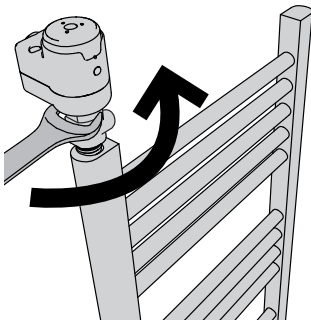

Fig. 15
4. Using a 27 mm spanner unscrew the T-piece with screwed the product, rotating it anti-clockwise until T-piece thread is completely off from towel rail 1/2" GAS female thread (Fig. 15).